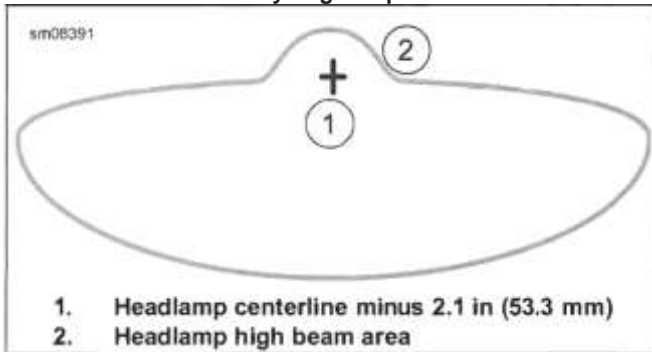

**Figure 8-48. Properly Aim Lamps: Quartz Halogen Type**
- Quartz halogen: See Figure 8-48. Hot spot centered on mark with headlamp set to high beam.
c. See Figure 8-48 or Figure 8-49. Adjust headlamp light beam.
4. See Figure 8-48 or Figure 8-49. Mark auxiliary/fog lamp horizontal and vertical centerlines (2, 3) on the wall.
- a. **Quartz halogen:** Adjust left auxiliary/fog lamp so entire high intensity zone (4) is below and to the right of left auxiliary/fog lamp centerlines as shown in Figure 8-48.